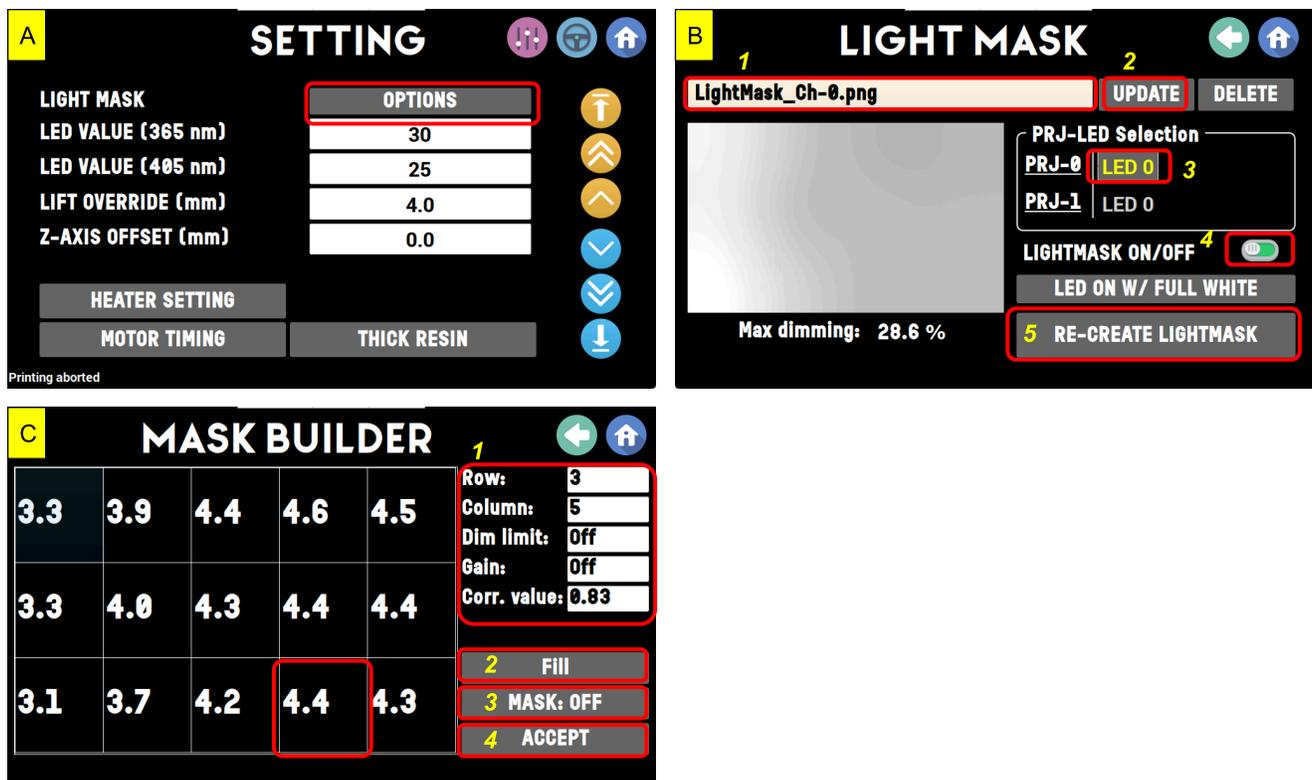

Fig. 31. Lightmask generation tool in Setting page
- In the lightmask page (**Fig. 31-B**), existing lightmask images are listed on top (box-1).
- In **Fig. 31-C**, you can set parameters and generate a new mask file.